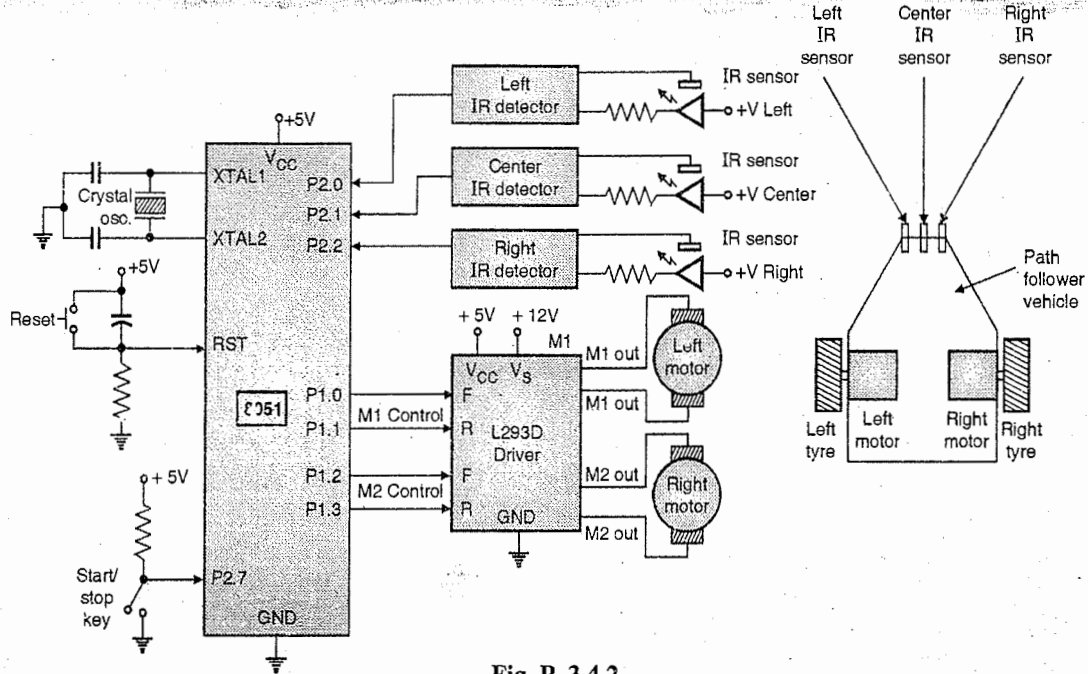

Fig. P. 3.4.2
- Path follower requires set of 3 Infrared Diode and Detector pairs. Detector output is sensed on 3 bits of the Microcontroller, P2.0 – Left IR, P2.1- Centre IR and P2.2 – Right IR, as shown in Fig. P. 3.4.2.
- Fig. P. 3.4.2 shows the detailed circuit of the interface.